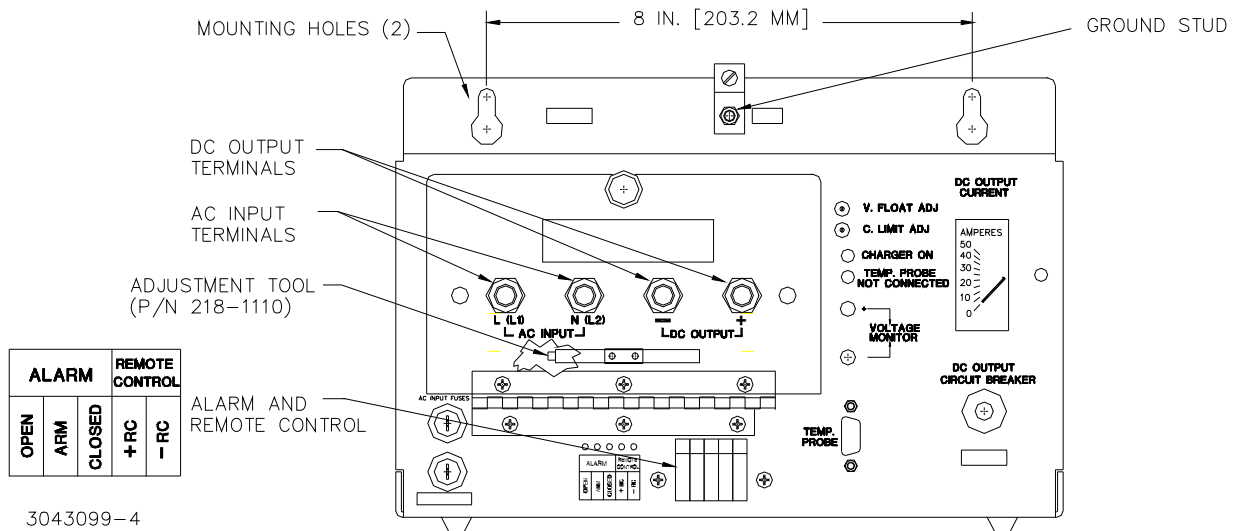

FIGURE 1. MODEL KRR 24-50, FRONT VIEW
- **Adjustable Float Voltage** - The float voltage is factory set to 26.8V d-c, and is adjustable, using the tool on the back of the front panel door (see Figure 1), from 18.8 to 32.4V d-c at the front panel by connecting a precision digital voltmeter to the + and - VOLTAGE MONITOR test points and adjusting the output using the V. FLOAT ADJ potentiometer.
- **Adjustable Current Limit** - The current limit is factory set to 50A d-c, and is adjustable, using the tool on the back of the front panel door (see Figure 1), from 10 to 50A d-c at the front panel using the C. LIMIT ADJ potentiometer.
3. Connect the ground connection to the ground stud (see Figure 1) using the 10-32 x 3/8 ACF Brass Hex nut provided.
Two slotted holes, 8 inches apart, are provided on the upper rear chassis (See Figure 1) to wall mount the unit. The unit also has four feet for bench top operation. The unit has forced air cooling from a single fan located within the integral power supply, as well as ventilation holes in the chassis which must be kept clear from obstructions to ensure proper air circulation. Enough space must be provided around the chassis to allow the hot air to exhaust from the components inside the chassis.
3. Connect ground wire to the ground stud (see Figure 1) using the 10-32 x 3/8 ACF Brass Hex nut provided.